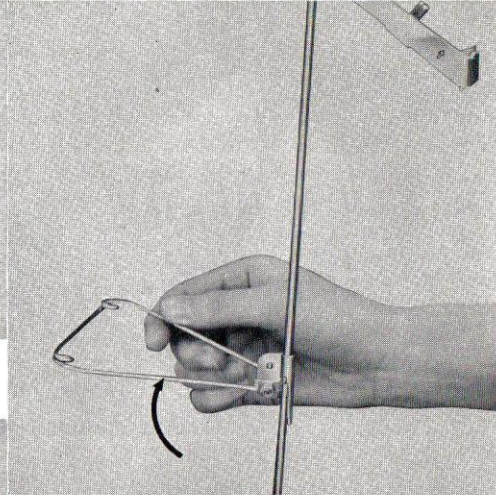

Fig. 20
- (2) Turn out the rear yarn guide as far as they will go. (See Fig. 20)